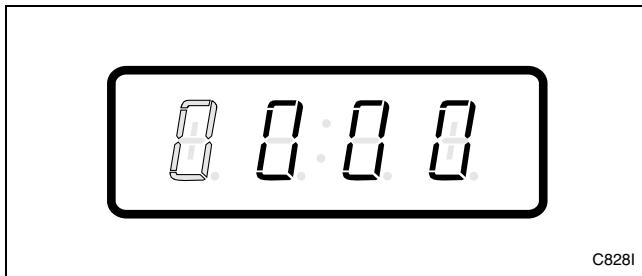

Figure 78
6. Press the START (enter) keypad to enter the fifth digit and display remaining four digits. The active digit will flash one second on and one second off. Refer to *Figure 78*.